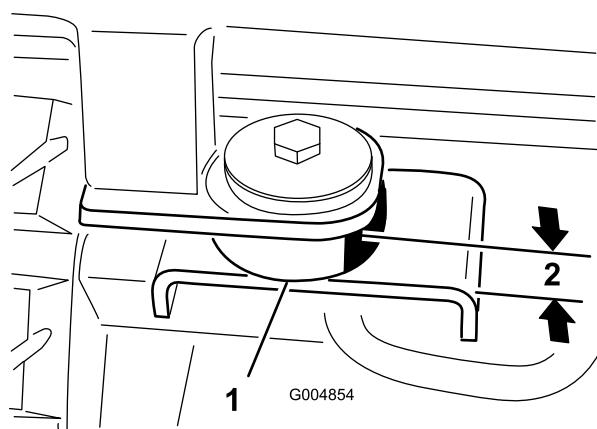

Figure 25
11. At the rear mounting points, secure the cab to the machine with a bolt (1/2 x 3 inches), steel washer (1/2 x 2-1/2 inches), rubber washer (1/2 x 2-1/2 inches) and nut (1/2 inch) (Figure 25). Tighten all four cab mount bolts until the rubber mounts are compressed to a thickness of 2.2 cm (7/8 inch).